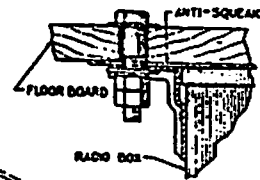

FIGURE 6
6. See Figure 6. Secure the control and speaker cables by means of the clip provided for this purpose.